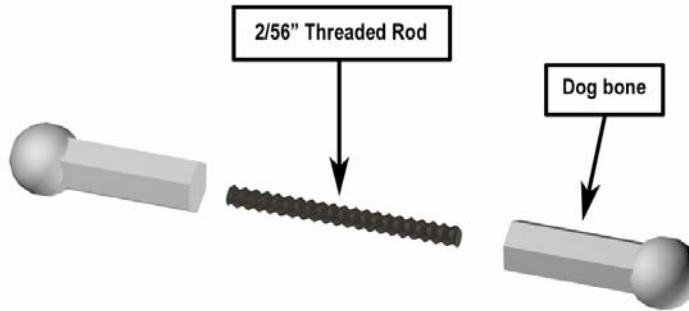

Figure 45: Dog Bone Assembly
4. Join the 2 dog bones by threading the 2/56" threaded rod into each end of the dog-bones. Install the threaded rod completely into 1 dog-bone before threading the other (Figure 45). Repeat this step for all of the legs on your QuadCrawler. This is often easiest done with a small vise. Don't grip the dog bones or the threaded rod too hard or you could damage the parts.